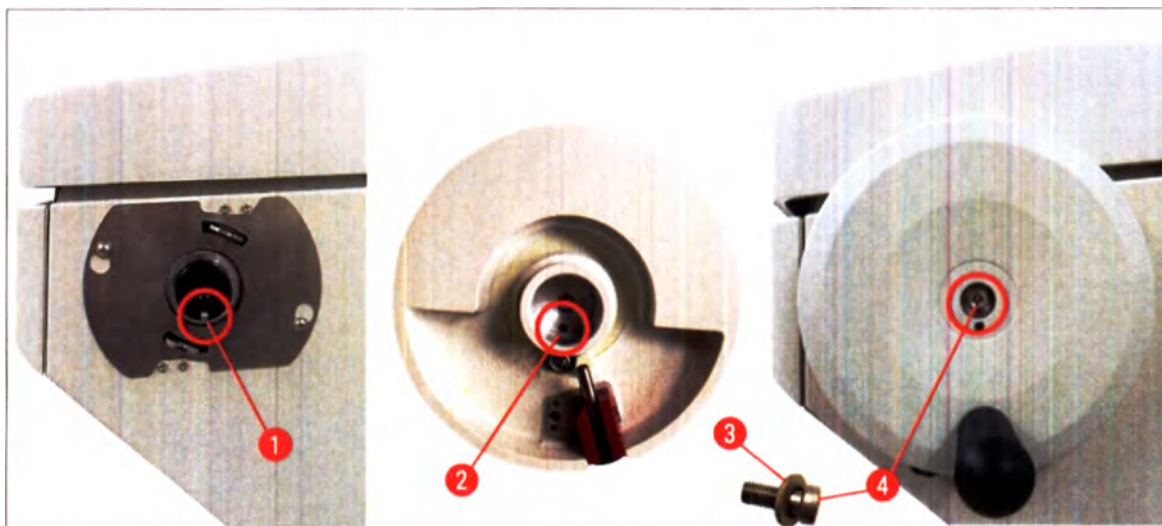

Fig. 9
2. Attach the spring washer (→ Fig. 9-3) to the screw as shown in (→ "Fig. 9") (→ Fig. 9-4).